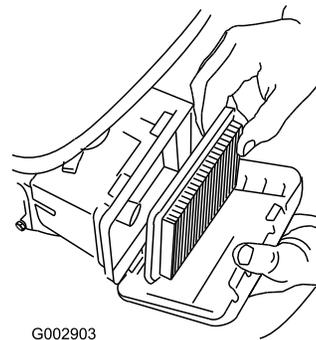

Figure 22
3. Remove the air filter (Figure 22).